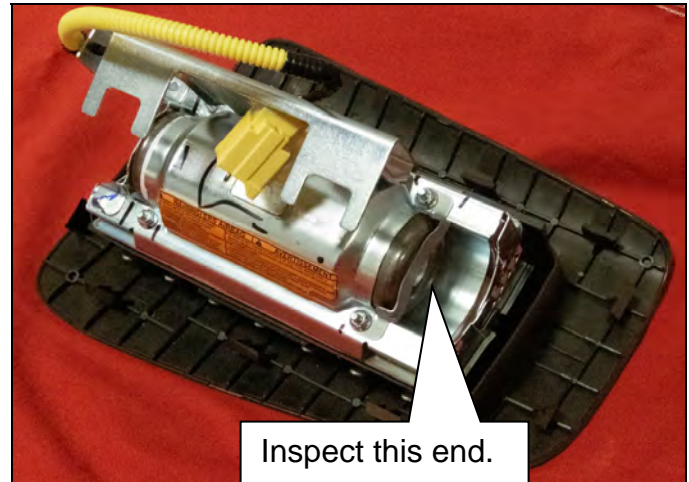

Figure 2
6. Inspect the air bag module where shown in Figure 2, to confirm if it needs to be replaced.
- If the inflator **does not have a nut on the end** (Figure 2), Warranty Call Center (WCC) validation is **not required**, skip to step 12 on page 8.